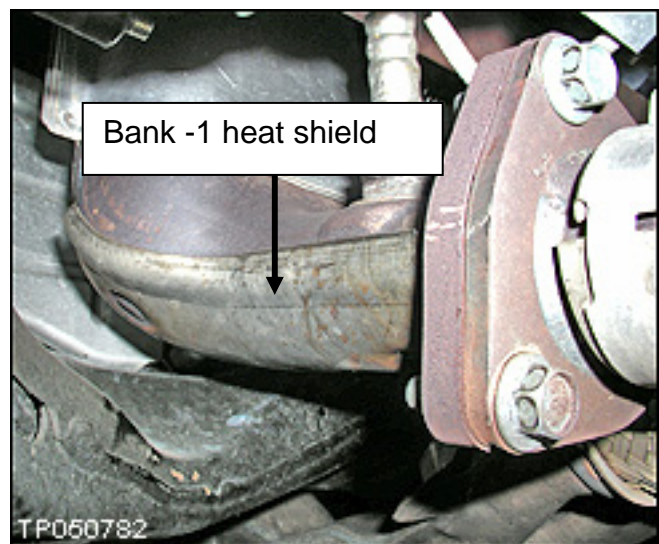

Figure 2
2. Inspect the Bank-1 catalyst heat shield for looseness by attempting to move heat shield by hand see Figure 2.